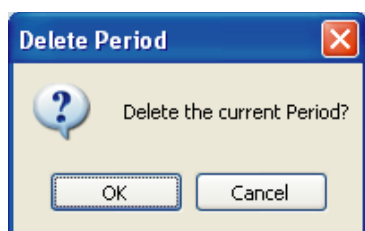
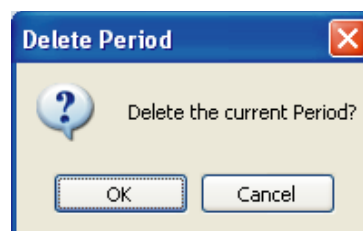

Fig.4-35
Fig.4-36
g. Delete key (See the ④ key in the figure) ——select a Period and click the key, the current selected Weekly Timing setting period could be deleted. Click the key, window as Fig. 4-35 shows, click “OK” to delete Period. Successful delete the Period, message box as Fig. 4-36 will show.